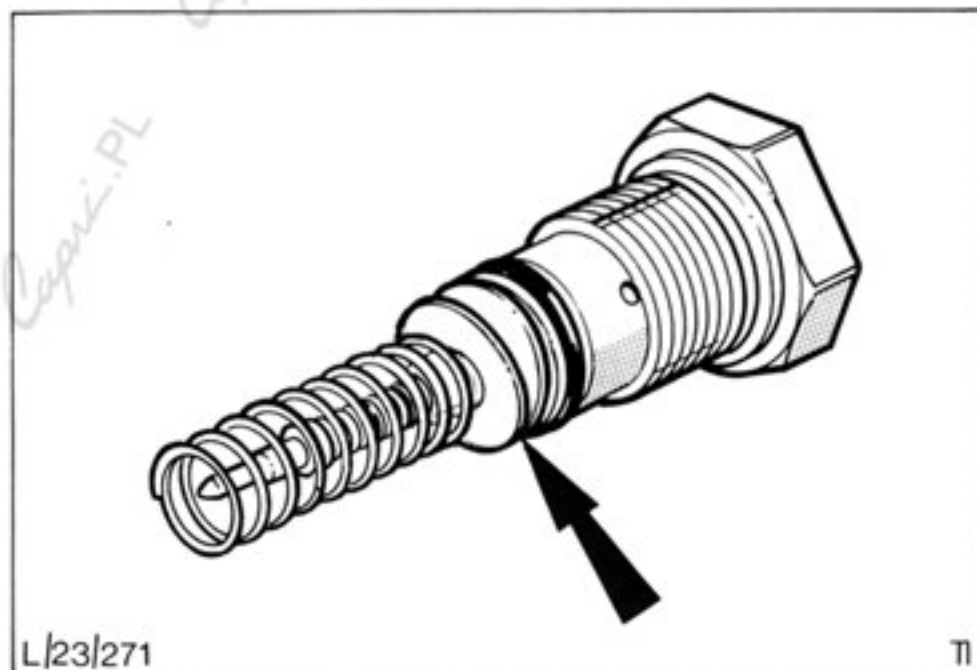

Fig.60. Main system pressure regulator. Adjusting shims arrowed.
14. Remove pressure regulator from fuel distributor and remove spacer shims (to reduce pressure) or add shims (to increase pressure), Fig.60.